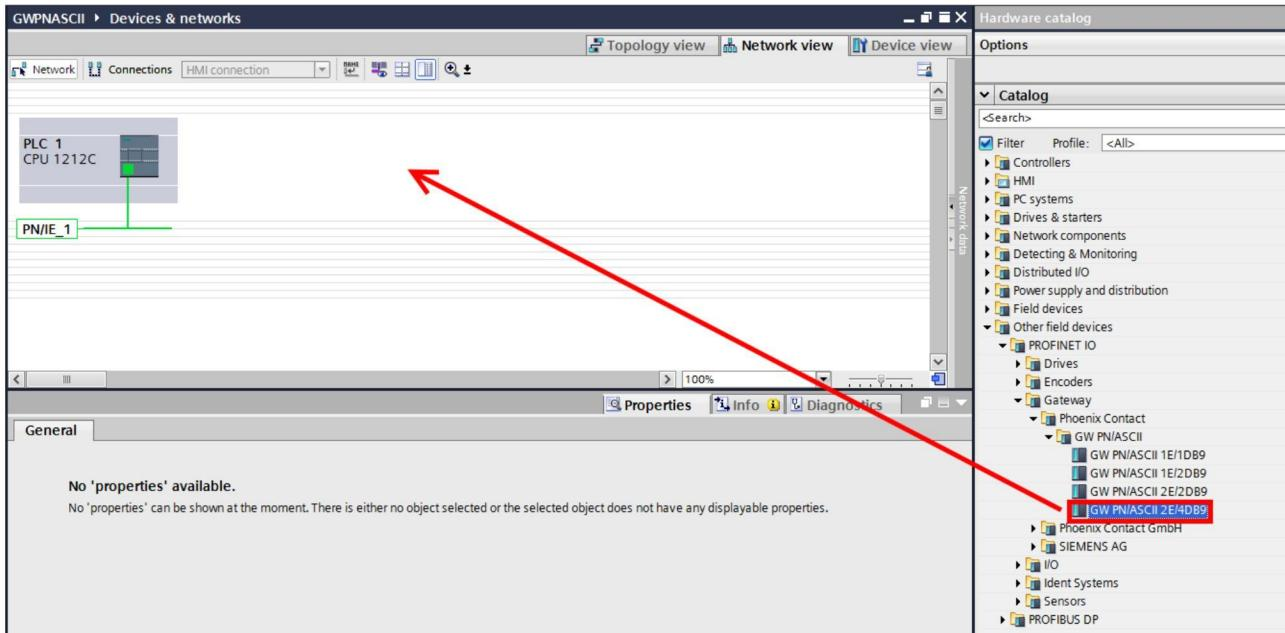

Figure 9 Gateway selection
3. Once the GSDML files are installed and the catalog is updated, navigate to the “Network View” of TIA Portal. From the “Hardware catalog” pane, click “Other field devices/PROFINET IO/Gateway/Phoenix Contact/GW PN/ASCII” to display the available gateways. Click the device and drag it into the “Network view” window. For example, Figure 9 shows the selection of a gateway with one Ethernet port and two D-SUB 9 serial ports (GW PN/ASCII 2E/4DB9).